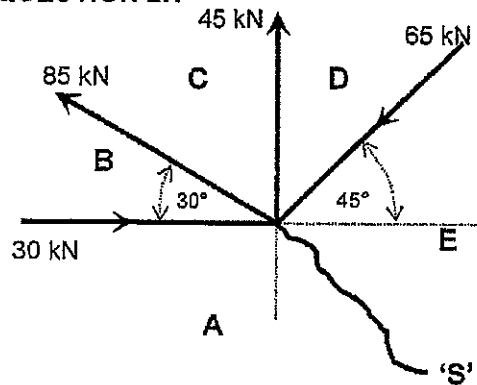

FIGURE 1
- 2.1 The system of forces shown in FIGURE 1 on the DIAGRAM SHEET (attached) is held in equilibrium by force 'S'.